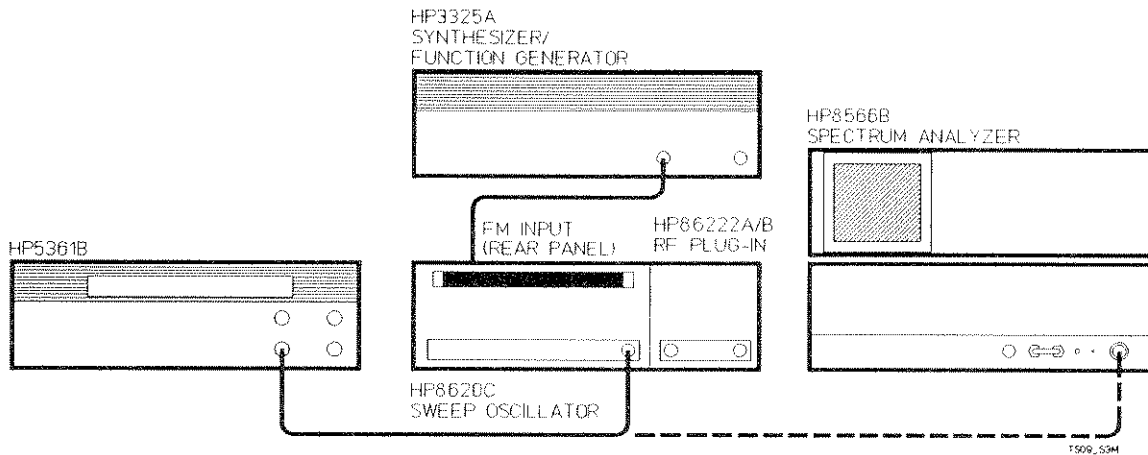

Figure C-6. Setup: FM Tolerance Test
**Description:** The FM peak-to-peak deviation specification is the worst case FM deviation that can be present on a carrier that the instrument can acquire and count. The counter averages out the deviations and displays a carrier frequency. In addition, the HP 5361B offers a choice of FM rate modes. This test will verify that the counter performs properly in all three modes. Test setup is shown in *Figure C-6*.